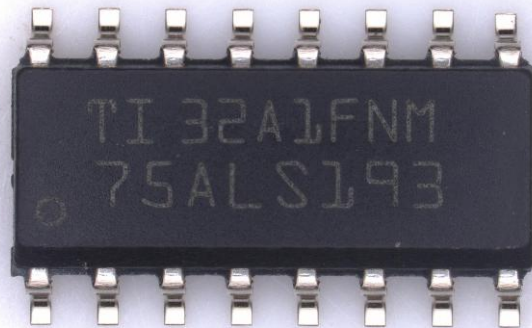

Figure 7: Optical inspection images of test items LR2026-1153-1 to LR2026-1153-3 showing laser markings at 30x magnification.
1. Optical inspection of test items between LR2026-1153-1 and LR2026-1153-2 – LR2026-1153-3 indicate **different laser markings on the bottom side, and shapes** as shown in Figure 1 – Figure 7.